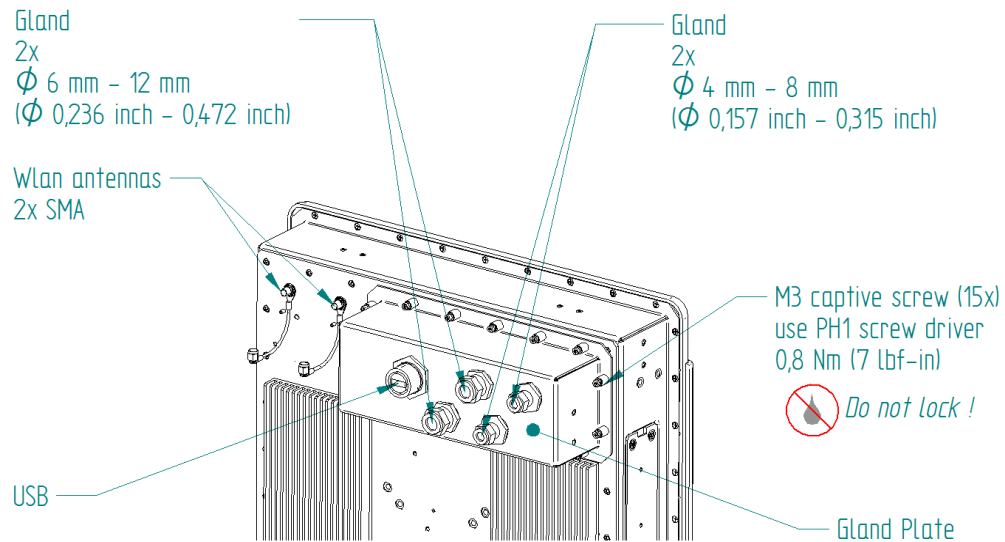

Figure 15: Gland Plate
For antenna locations, refer to Figure 15.
Four glands and one USB connector are available on the Gland Plate shown in Figure 15.
Note: Figure 15 indicates all available I/O for the Gland Plate, but does not cover all available configurations. Contact your GE Intelligent Platforms sales representative for a quote for a customized Gland Plate.
1. Loosen the 15 captive screws that secure the Gland Plate to the unit as shown in Figure 15